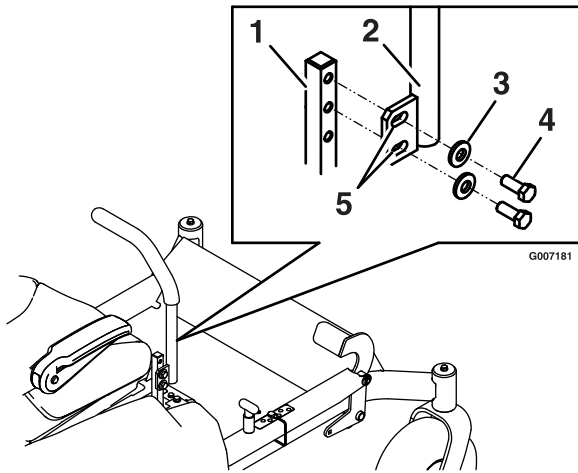

Figure 19
1. Remove the two bolts holding the control lever to the control arm shaft (Figure 19).
2. Loosen the lower bolt just enough to pivot the control lever fore or aft (Figure 19). Tighten both bolts to secure the control in the new position.